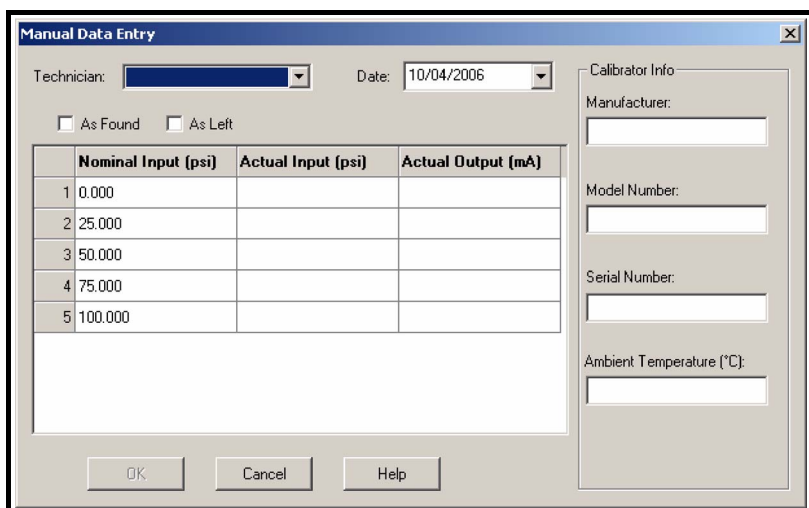

Figure 7-4: Manual Data Entry window
3. Click on the *Manual Data Entry* button in the tool bar. This opens the *Manual Data Entry* window (Figure 7-4).